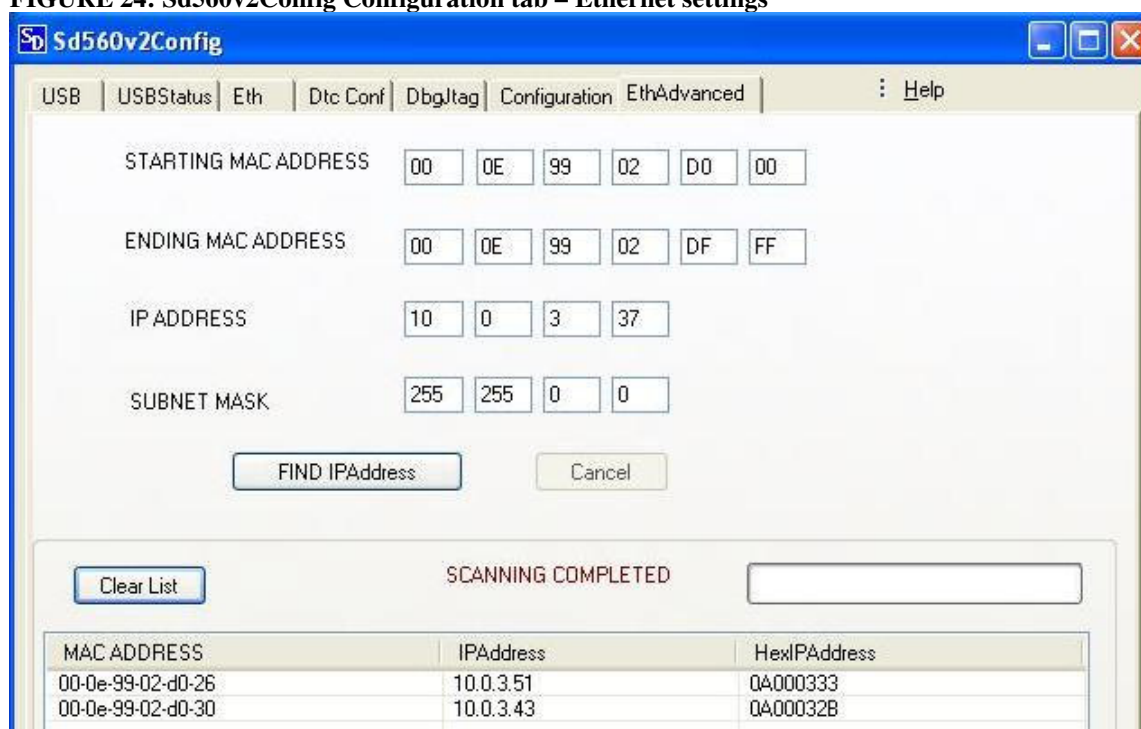

FIGURE 25: Sd560v2Config utility – EthAdvanced tab.
- Click on the 'EthAdvanced' Tab, press on the 'Find IPAddress' button, and wait for the SCANNING COMPLETED message on the output window. A sample output is as shown in figure 25 below.